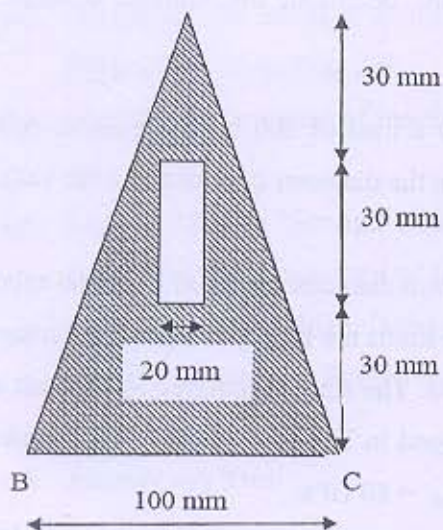

Figure 1
- Q - 2 (a)** A rectangular hole is made in a triangular section as shown in **Figure 1**. Determine the moment of inertia of the section about base BC. [04]